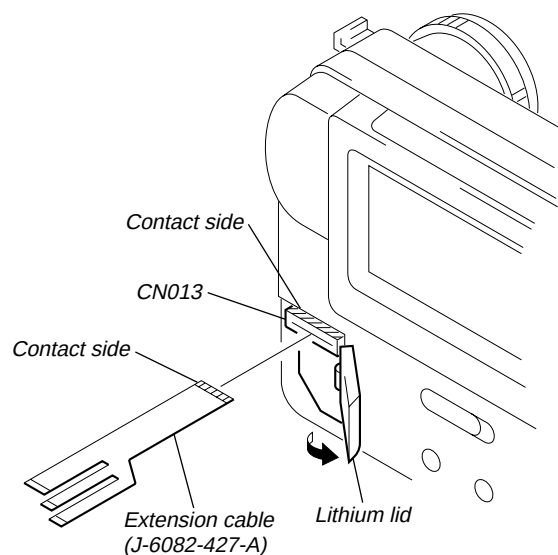

Fig. 3
- 4) Open the lithium lid. (See Fig. 3.)
- 5) Mount the flexible board on CN013. (See Fig. 3.)